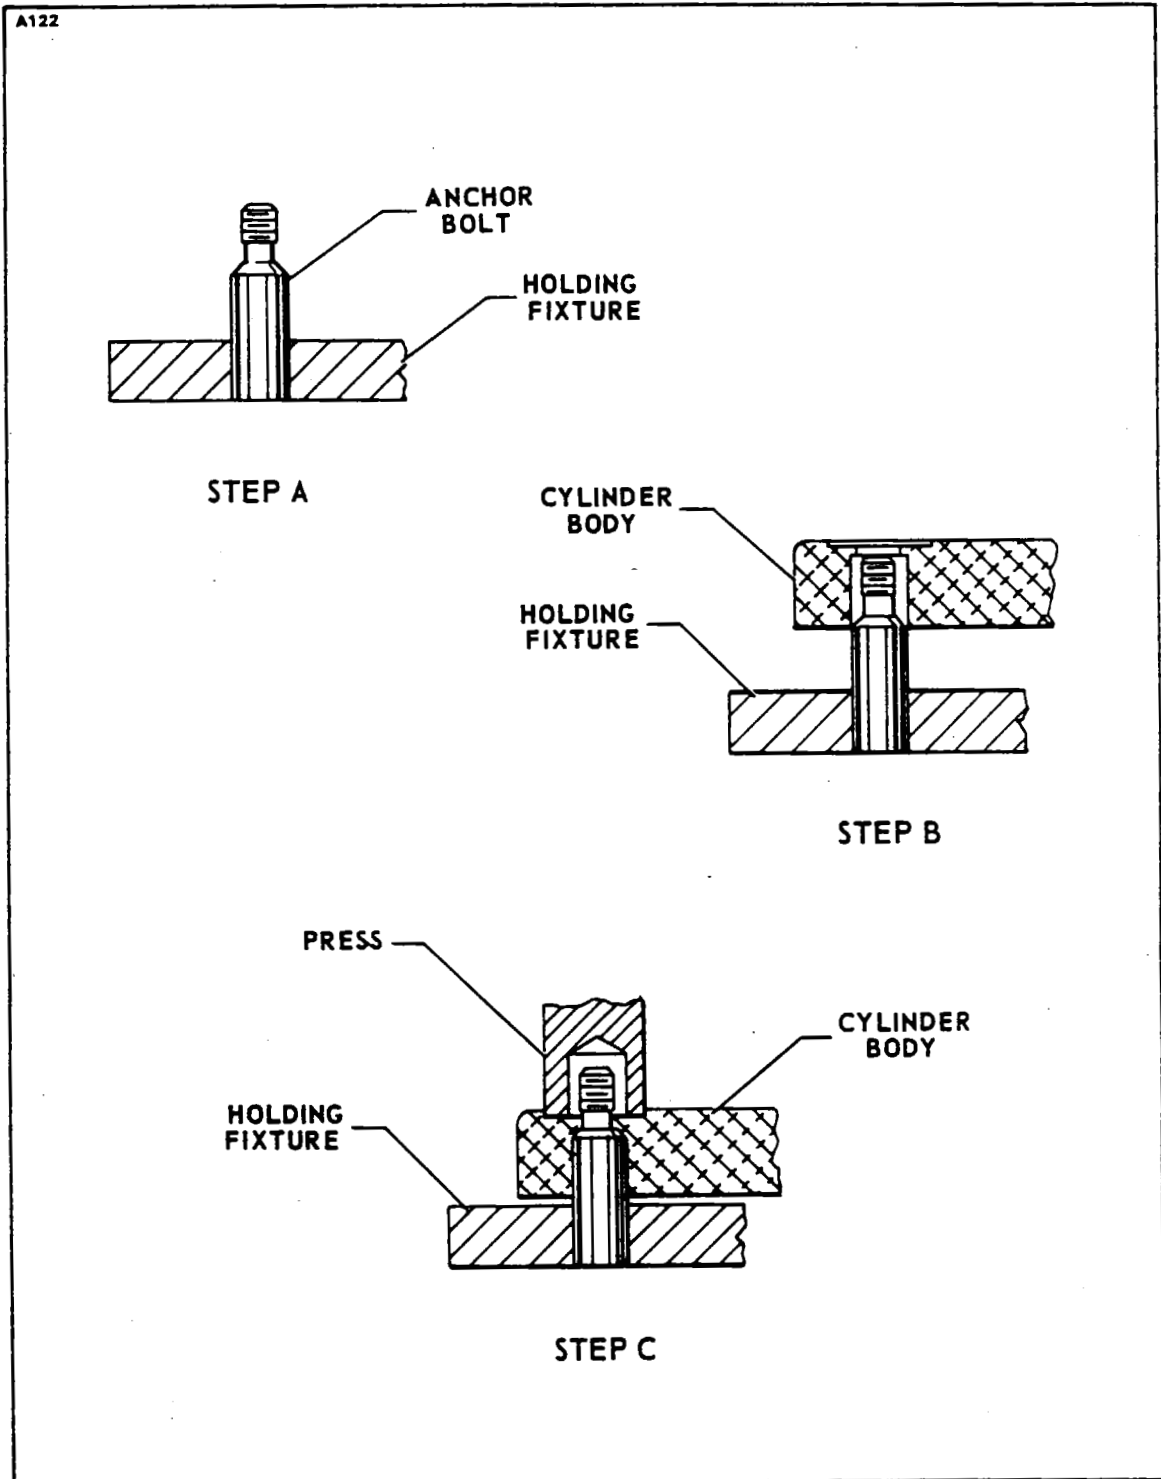

Figure 7-16. Installation of Anchor Bolt.
1. Support anchor bolt in a holding fixture. (Refer to Figure 7-16, Step A.)
2. Align cylinder body over anchor bolt. (Refer to Figure 7-16, Step B.)
3. Use a suitable arbor press and apply pressure on the spot face directly over the anchor bolt hole. (Refer to Figure 7-16, Step C.)